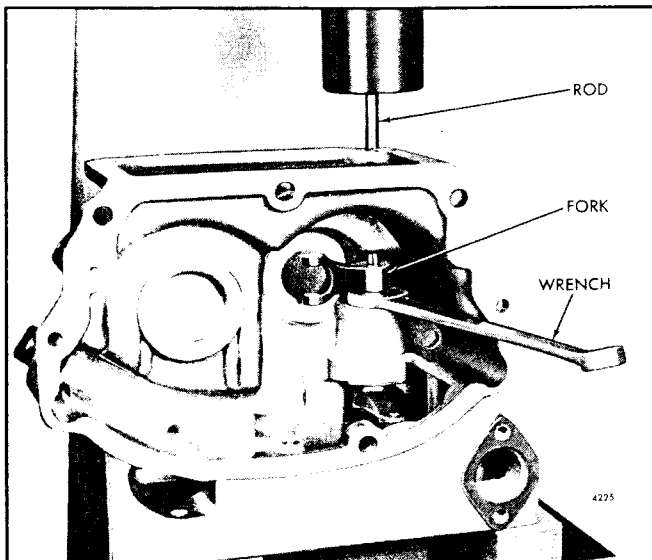

Fig. 7 - Removing Governor Operating Fork from Operating Shaft and Bearing Assembly
- f. Support the governor housing, bottom side up, on two wood blocks on the bed of an arbor press as shown in Fig. 7. Place a 9/16" open end wrench under the operating fork and the boss of the housing, then insert a rod through the cup plug hole in the housing and against the end of the operating shaft and press the shaft and bearing assembly out of the operating fork.